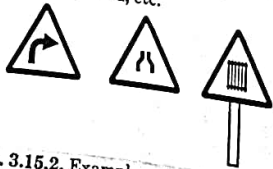

Fig. 3.15.2. Examples of cautionary signs.
- 6. Some of the examples for this type of signs are shown in Fig. 3.15.2, and includes right hand curve sign board, signs for narrow road, sign indicating railway track ahead, etc.